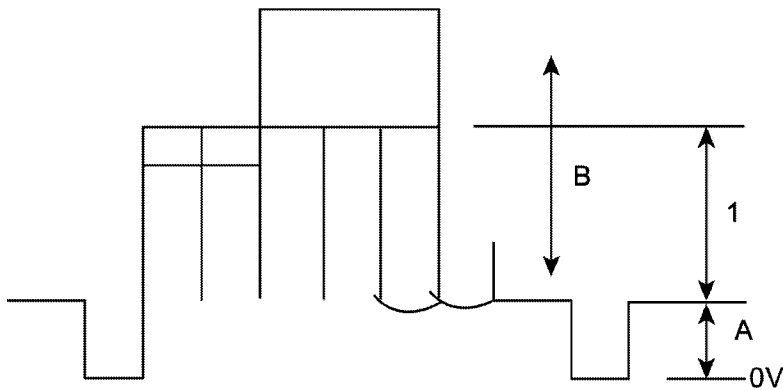

Fig. 4
6. Set (A) to $2.3 \pm 0.2V$ by BRT (CHK2) at measurement point TPL 2 Fig. 4.
1. Connect oscilloscope probe to TPL 2 (G OUT) with $10k\Omega$ series resistor and adjust Contrast so that (B) as in Fig. 4 is $2.4 \pm 0.1V$.
2. Adjust "Sub Colour" so that waveform as in Fig. 4 (1) $2.5 \pm 0.1V$.